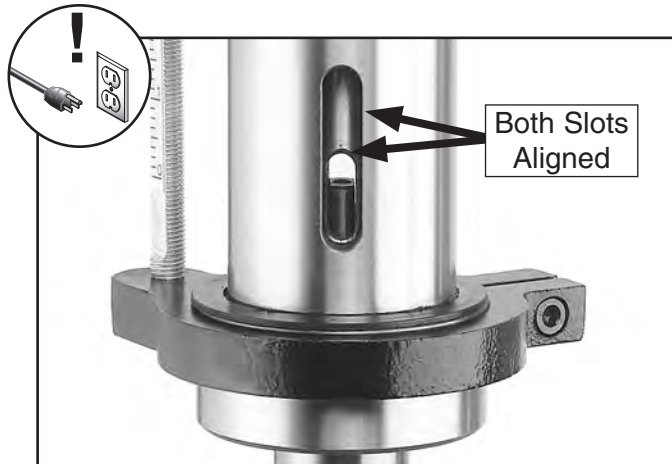

Figure 26. Inner and outer drift key slots aligned.
5. Rotate spindle until inner drift key slot is aligned with outer slot (see **Figure 26**). You will see through the spindle when the slot is properly aligned.